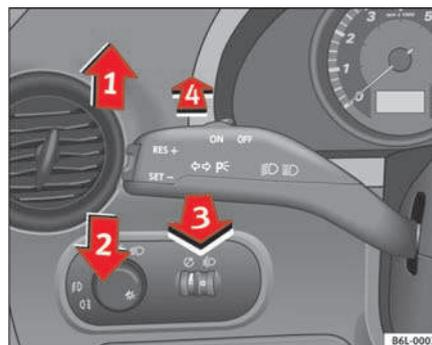

Fig. 60 Turn signal and main beam headlight lever
- Move the lever all the way up \Rightarrow fig. 60 **1** to indicate **right**, and all the way down **2** to indicate **left**.
- Press the lever forward \Rightarrow page 92, fig. 60  to switch on the main beams.